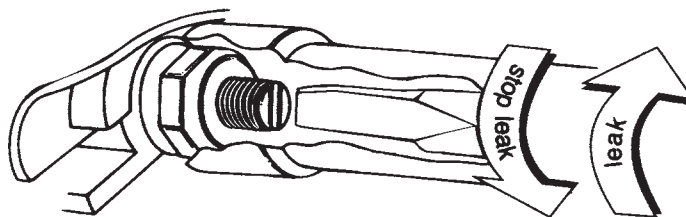

Figure 7
- c) Insert the nutdriver portion of the lever height adjustment tool through the access port and engage the locknut. Insert the screwdriver portion of the tool through the center of nutdriver and engage the slotted end of the poppet. **While holding the poppet (screwdriver) stationary, turn the nut counterclockwise until the airflow just stops.** Figure 7. Remove the adjustment tool.